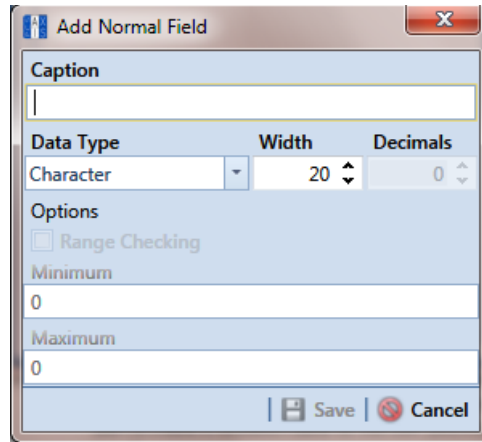

Figure 3-33. Add Normal Field
- 4 Click  **Normal** in the toolbar to open the *Add Normal Field* dialog box (Figure 3-33).